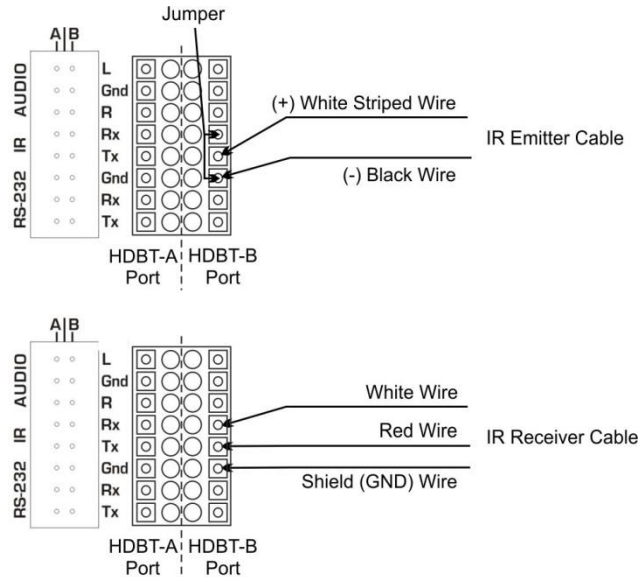

Figure 15: Connecting IR Emitter / Receiver to the HDBT-B Port
- Using the supplied terminal block connector, connect an IR emitter / receiver according to the wiring scheme in Figure 15: